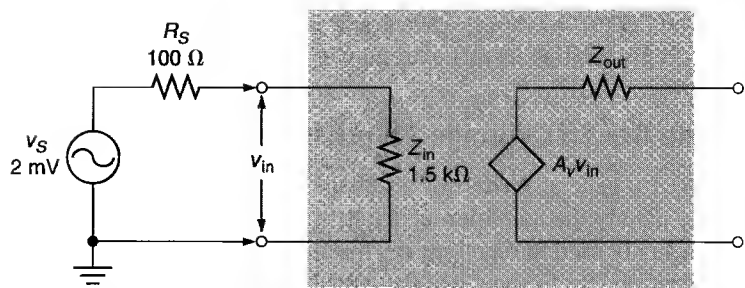

FIGURE 8.5 Amplifier input circuit.
When an amplifier is connected to a signal source, the source sees the amplifier as a load. The **input impedance** (Z_{in}) of the amplifier is the value of this load. For example, the value of Z_{in} for the amplifier in Figure 8.5 is shown to be 1.5 k Ω . In this case, the amplifier acts as a 1.5 k Ω load that is in series with the source resistance (R_S).
If we assume that the input impedance of the amplifier in Figure 8.5 is purely resistive, the signal voltage at the amplifier input is found as
Calculate the value of v_{in} for the circuit shown in Figure 8.5.
An amplifier like the one in Figure 8.5 has the following values: $v_s = 800 \mu\text{V}$, $R_s = 70 \Omega$, and $Z_{in} = 750 \Omega$. Calculate the value of v_{in} for the circuit.
Here is what Example 8.4 has shown us: Had we ignored the effects of R_s and Z_{in} on the amplifier in Figure 8.5, we would have calculated an output voltage for the circuit of 1 V. However, because of the reduction in v_s , the actual value of v_{out} is 937.5 mV. Thus, R_s and Z_{in} cause the output of the circuit to be 62.5 mV lower than it first appears to be. As you will see, the combination of Z_{out} and R_L causes an even greater reduction in the ideal output from an amplifier.
10. Would the circuit shown in Figure 8.5 operate more effectively with a voltage source rated at $R_S = 10 \Omega$? Explain your answer.